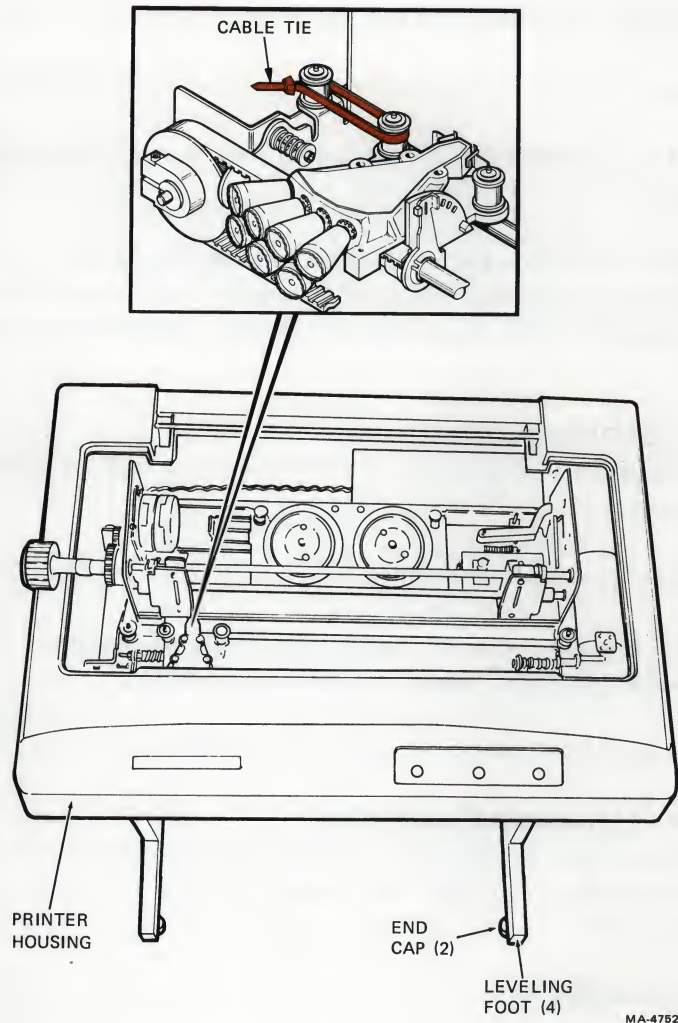

Figure 4-3 Cable Tie Location
7. Lift the LA120-RA top cover assembly. Clip and remove the nylon cable tie securing the printhead assembly (Figure 4-3).
8. Install and adjust the leveling feet on the LA120-RA legs (Figure 4-3).
2. Using a nylon cable tie, secure the printhead assembly to prevent movement while in transit as shown in Figure 4-3.